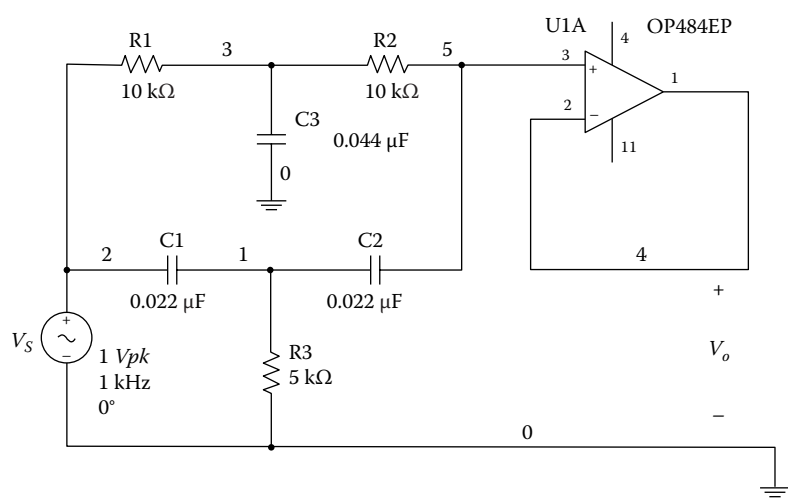

FIGURE P5.11
Problem 5.11 Build the circuit shown in Figure P5.11. Use the Analog Discovery board to: (1) Measure the center frequency and (2) measure the low cut-off and high cut-off frequencies. (3) Calculate the bandwidth of the